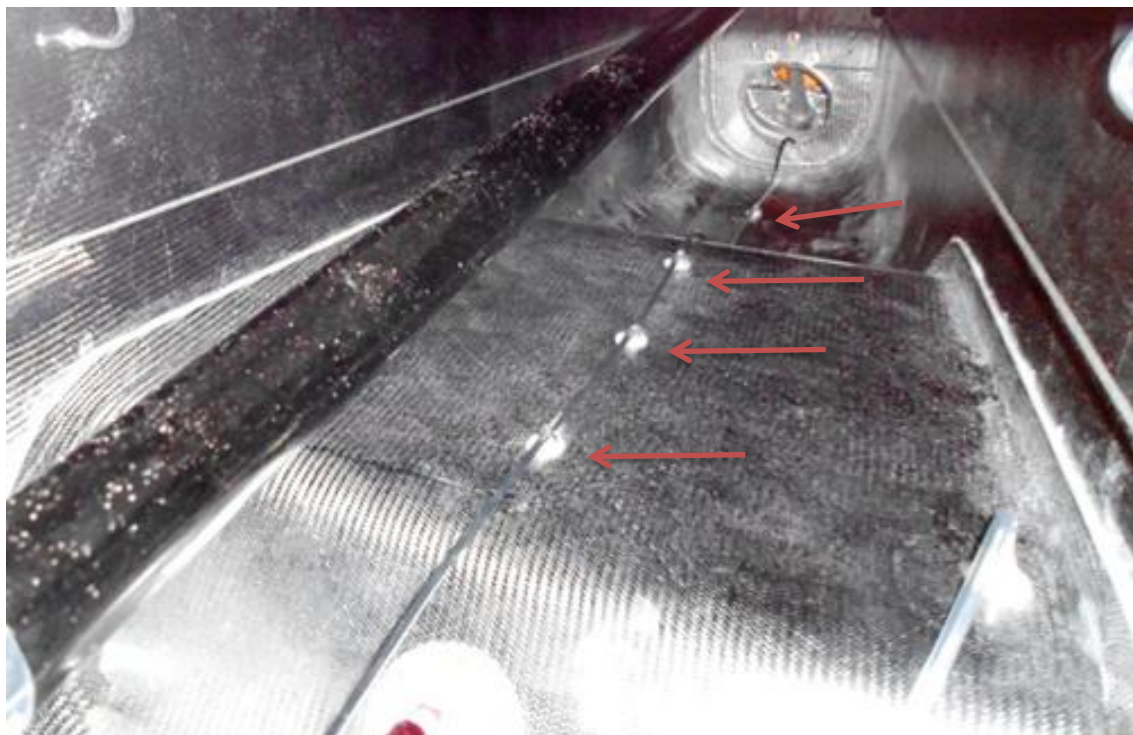

Figure 2: Position of Bowden Cable
3. Bond the Cable Mounting Bases on the fuselage floor and smoke tank (see Figure 2) using Araldite 2022.